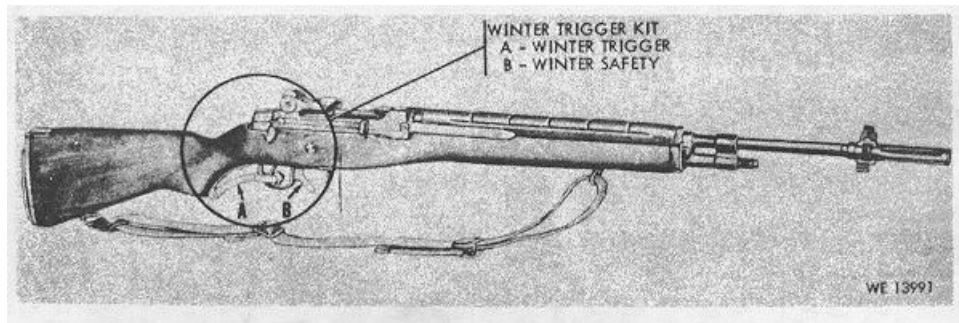

Figure 1-7. 7.62-MM Rifle M14 with winter trigger kit installed.
c. The Winter Trigger Kit M5 (fig. 1-7) is used in cold weather or arctic operation of Rifle M14. The kit consists of a winter safety and winter trigger assembly. It is installed to the pistol grip portion of the stock with screws.
g. *Winter Trigger Kit.* Refer to figure 1-7 as a replacement for the regular trigger assembly during cold or arctic weather.